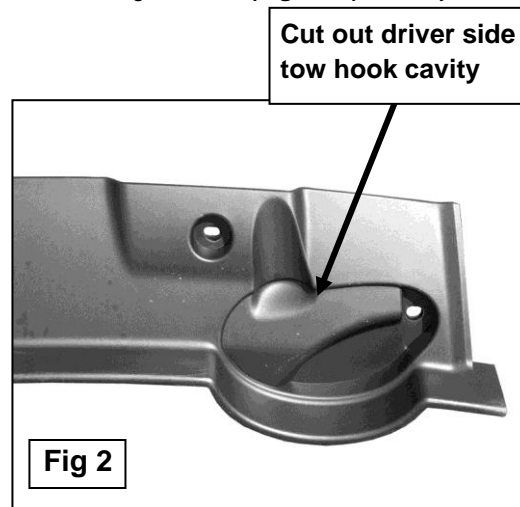
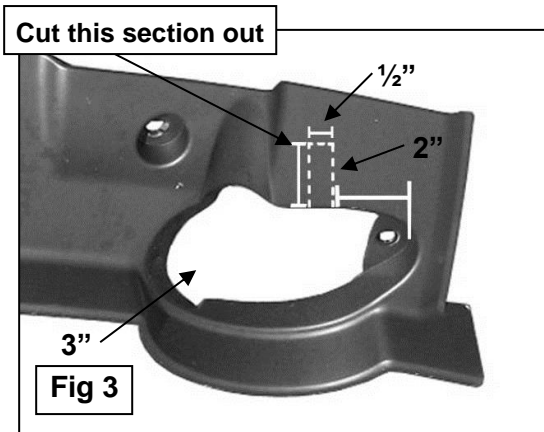

Fig 2
Fig 3
3. Use a hack saw to cut out the driver side tow hook cavity on the splash guard, **(Figure 2)**. Once you have cut out the tow hook cavity, place the splash guard up to the vehicle to check for clearance around the Mounting Brackets. If necessary, cut an additional  $\frac{1}{2}$ " x 2" slot in the front side of each tow hook cavity to clear the Mounting Bracket, **(Figure 3)**. Once you have cut out the plastic splash guard, reinstall it using the factory hardware.